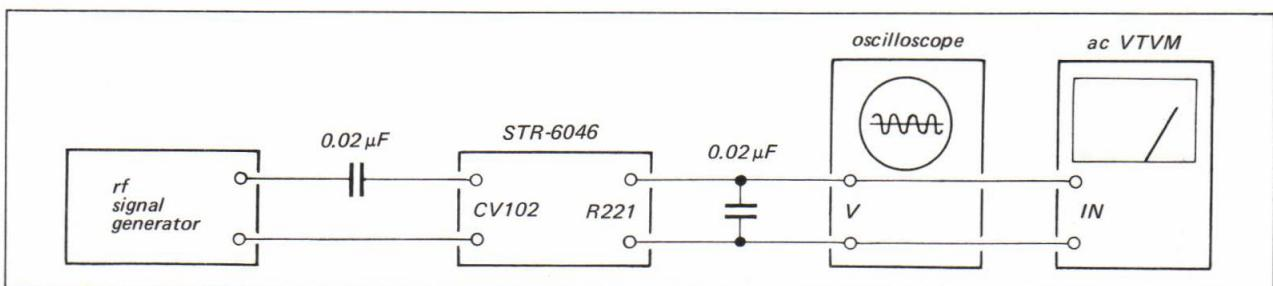

Fig. 3-7. Test setup for fm discriminator alignment by rf signal generator
- With the equipment connected as shown in Fig. 3-7, set the signal-generator's controls as follows: